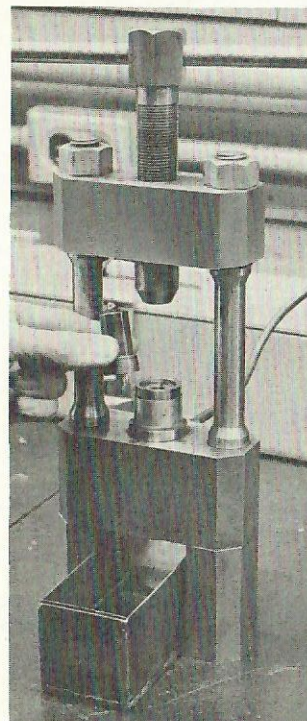
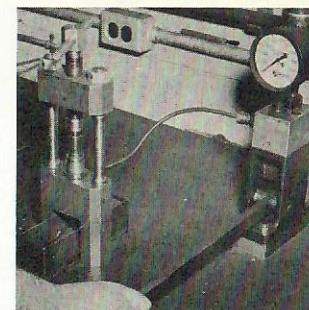

FIG. 75-1
FIG. 76-1
3. Nozzle valves which are stuck due to scale or other abrasives lodged between nozzle valve and body and which cannot be removed after thoroughly soaking in the solvent should be removed in the nozzle valve ejector, Fig. 75-1 and Fig. 76-1.